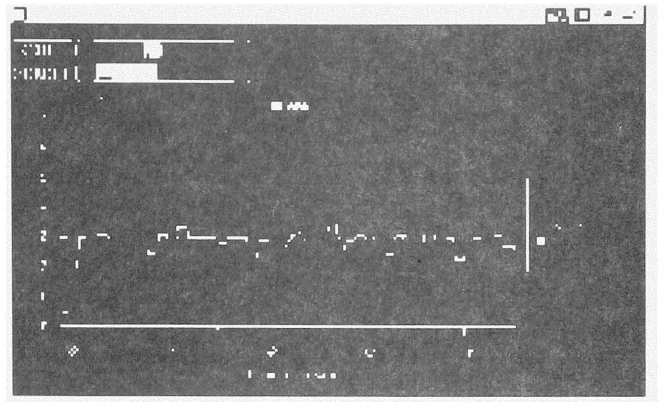

Figure 3. AutoSched Timeline Business Graph
**Graphs** in AutoSched are easy to define and update with the animation. Graph types include bar charts, pie charts, and timelines. Figure 3 shows a typical timeline business graph. Any model entity can be attached to a graph, including transporter vehicle velocity, number of loads on a conveyor section, or average utilization of a machine. Graphs can be printed or plotted to a variety of supported output devices, and graph displays can be controlled using the AutoMod language.